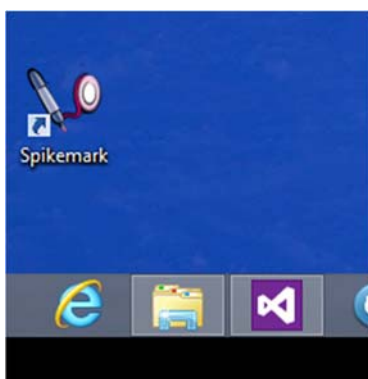
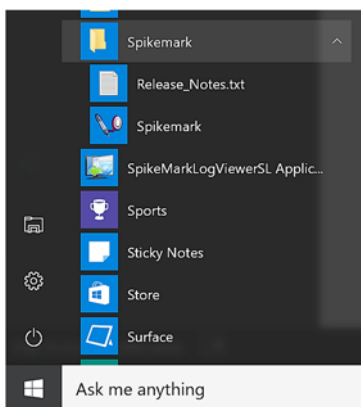

Figure 20
Figure 21
1. Launch Spikemark either from the **Desktop** (Figure 20) or the **Windows 8 Start Screen** (Figure 21).